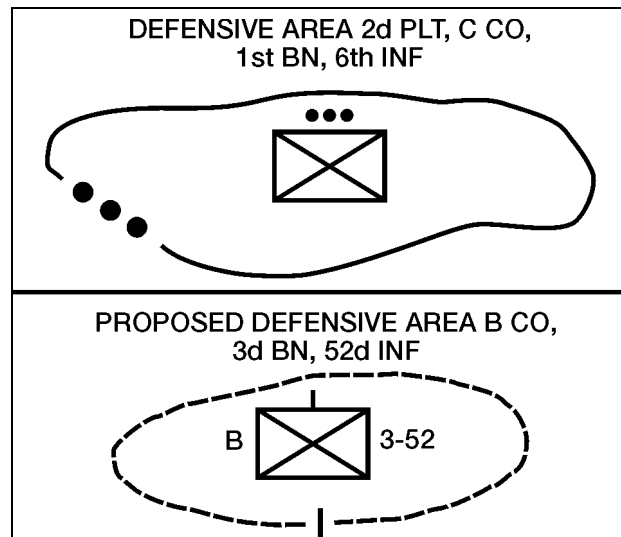

Figure 071-332-5000-18. Defensive Area
**(1) Line of departure (LD).** The LD is a control measure to coordinate the advance of an attacking unit (figure 071-332-5000-19). The LD should be—